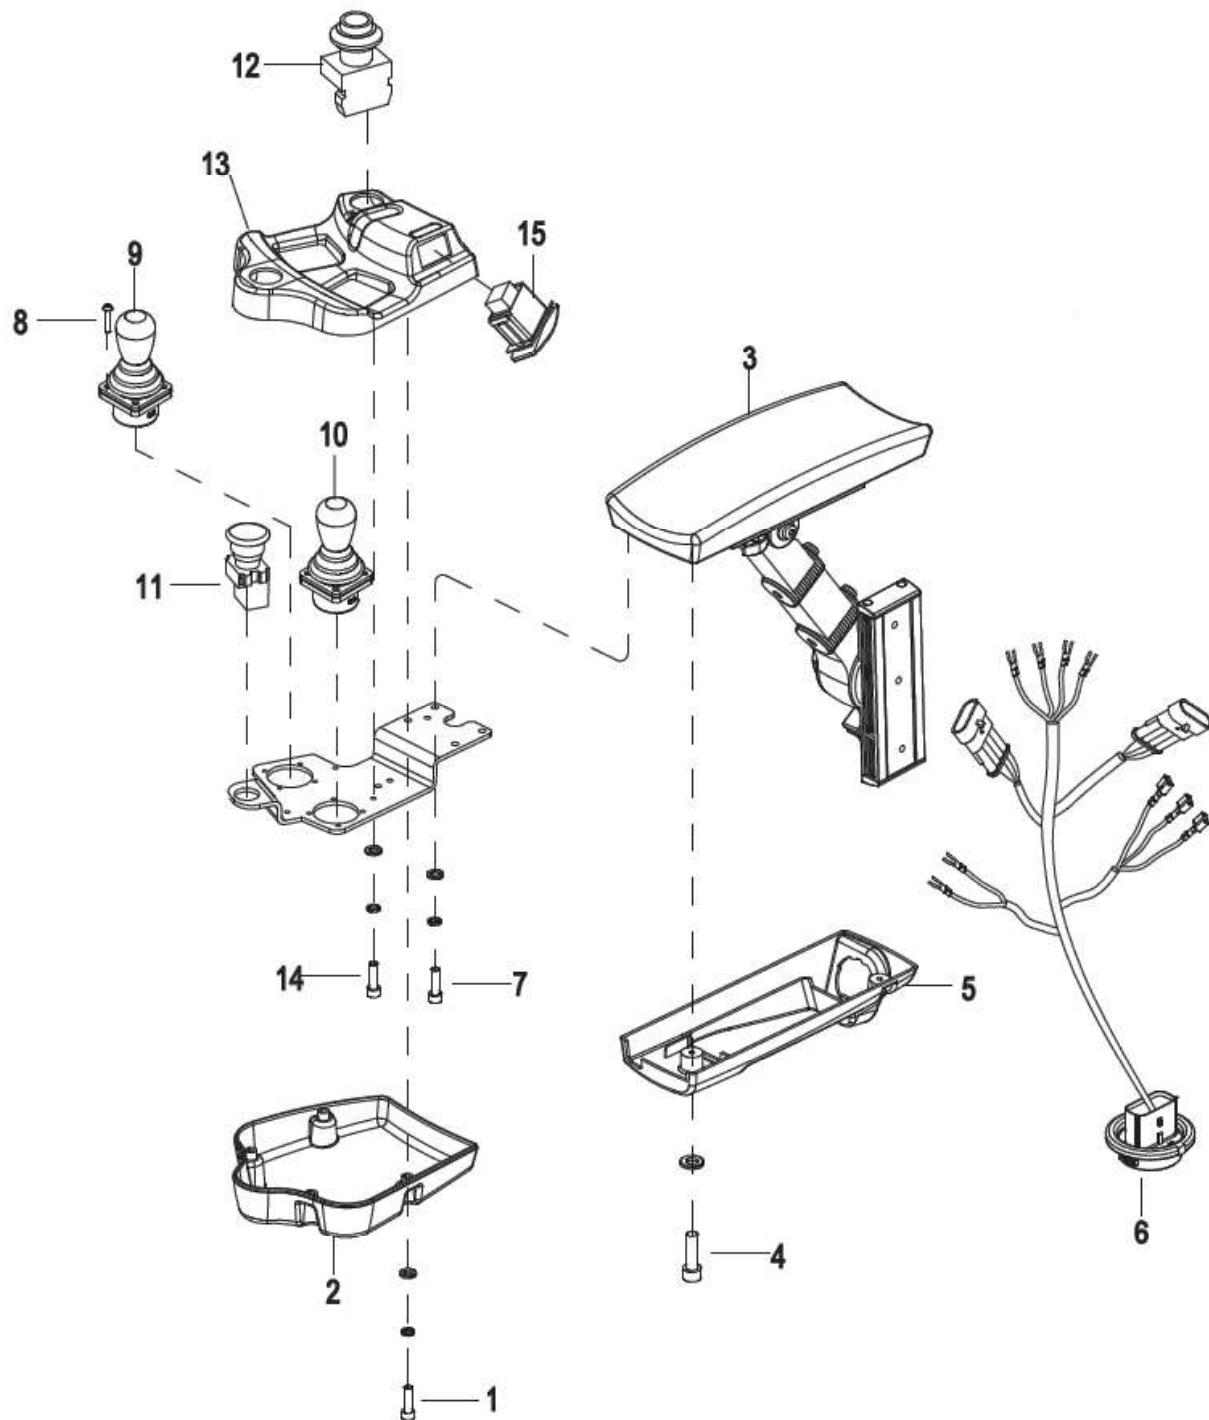

Figure 5-12 Operating Handle
2. Remove the four screws (1, Figure 5-12) and remove the lower operating handle cover (2).
3. Remove the three screws (4) and remove the lower operating armrest cover (5) from the operating armrest (3).
4. Disconnect the connection between the operating handle and operating armrest harness (6).
5. Remove the operating armrest harness (6).
6. Remove the four screws (7) and remove the operating handle from the operating armrest (3).
7. Remove the eight screws (8), then remove the side shift lever (9) and the tilt/lift lever (10).
8. Remove the horn button (12) and the emergency stop switch (11).
9. Remove the three screws (14) and remove the upper operating handle cover (13), then remove the directional switch (15).